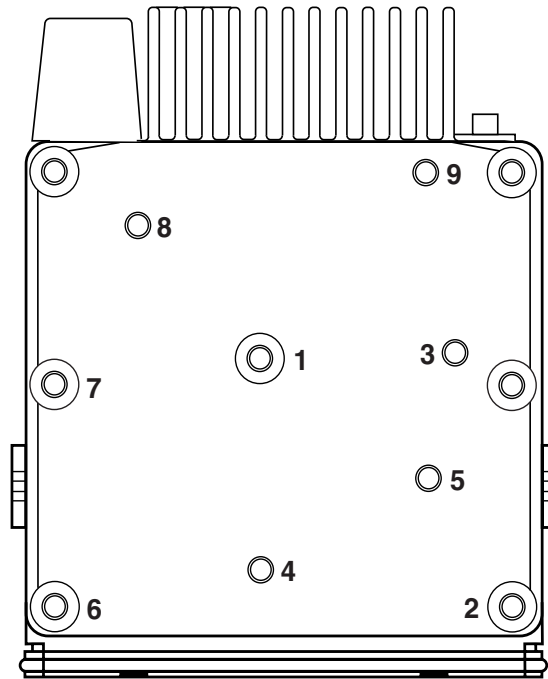

Figure 2-12: Top view of the LowBand radio chassis and die cast cover showing the screw sequence
7. Torque the nine screws to 17 in lbs (1.9 NM) using the T20 TORX™ driver. Tighten the die cast cover screws in the sequence labeled on the top of the cover or as shown in Figure 2-12. Since the screws take a set it is importance to torque the screws a second time (17 in lbs) in the same order.